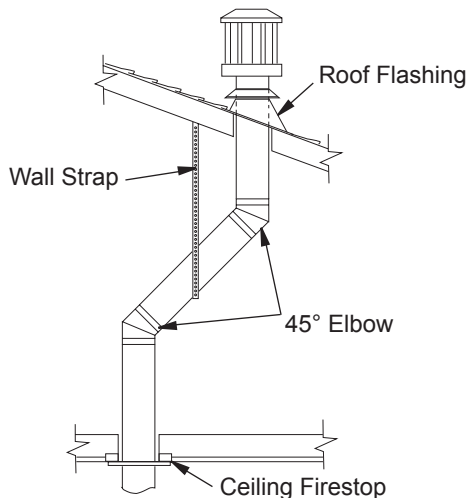

Figure 19 - Offset with Wall Strap and 45° Elbows
- Determine the route your vertical venting will take. If ceiling joists, roof rafters or other framing will obstruct the venting system, consider an offset (see Figure 19) to avoid cutting load bearing members. **Note:** Pay special attention to these installation instructions for required clearances (air space) to combustibles when passing through ceilings, walls, roofs, enclosures, attic rafters, etc. Do not pack air spaces with insulation. Also note maximum vertical rise of the venting system and any maximum horizontal offset limitations.
**Note:** If an offset is needed to avoid obstructions, you must support the vent pipe every 3 feet. Use wall straps for this purpose (see Figure 19). Whenever possible, use 45° elbows instead of 90° elbows. The 45° elbow offers less restriction to the flow of the flue gases and intake air.
- Place the flashing over the pipe section(s) extending through the roof. Secure the base of the flashing to the roof and framing with roofing nails. Be sure roofing material overlaps the top edge of the flashing as shown in Figure 19. There must be a 1" clearance from the vent pipe to combustible materials.